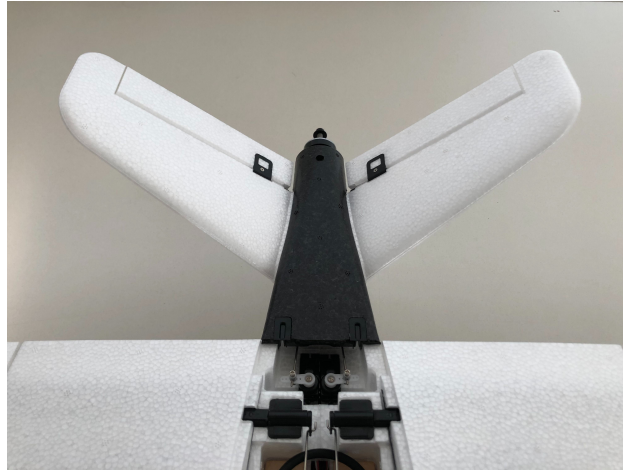

Figure 3: Installed V-Tail.
3. To install the V-tail, push in the tail halves with the magnets facing inwards and watch out again for correct alignment of the control mechanism (Fig. 3).